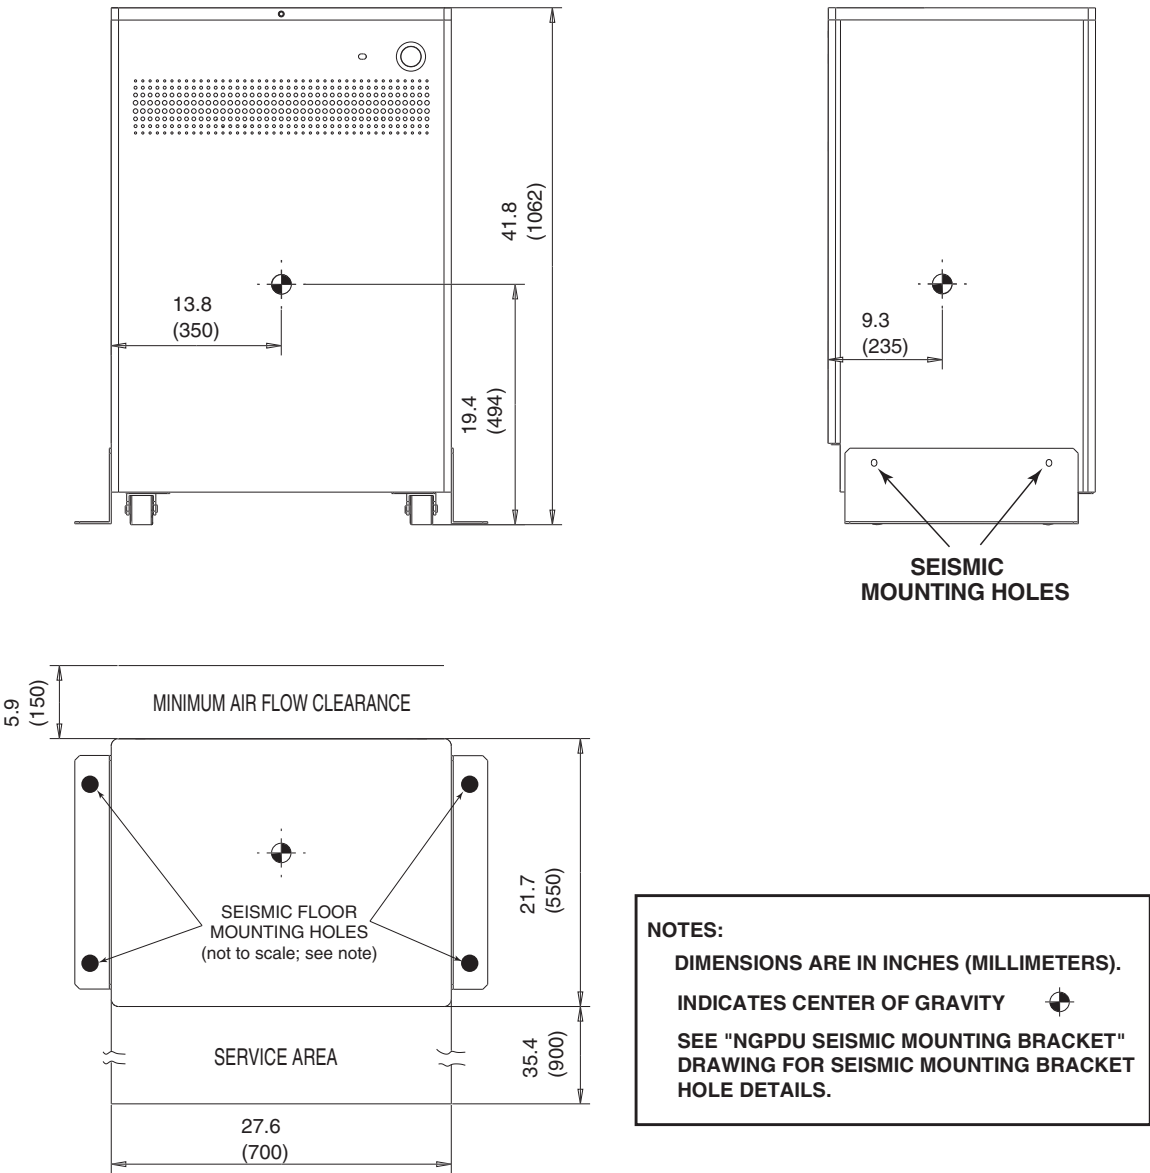

Figure 6-6 Power Distribution Unit (NGPDU-4)
- Power Distribution Unit: Figure 6-6